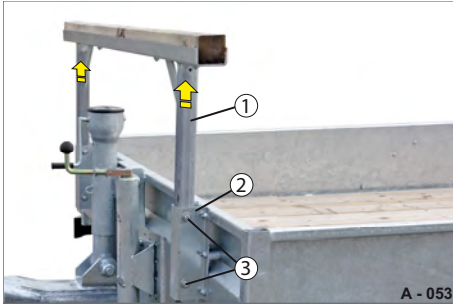

Fig. 57 Unlocking the support frame
- ▶ Release the screw fitting (Fig. 57/3) on both post pockets (Fig. 57/2).
- ▶ Pull the support frame (Fig. 57/1) slowly and simultaneously out of the post pockets.